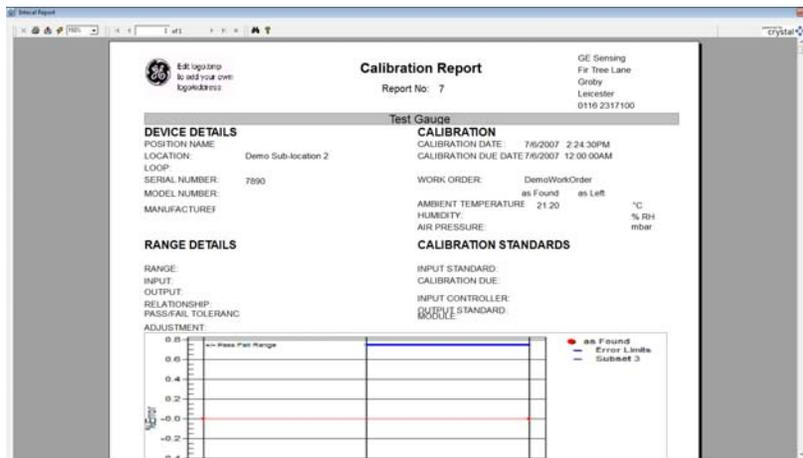

Figure 7-2: Example calibration report (Page 1 - Data)
Calibration History reports If you use the *View Report* or *New Report* buttons (Figure 7-1), the *Intecal Report* window opens (Figure 7-2). You can print the file and/or export the file in a different format. See Chapter 6, Table 6-1.
- Page 1 has the necessary *Device* and calibration data (Figure 7-2).